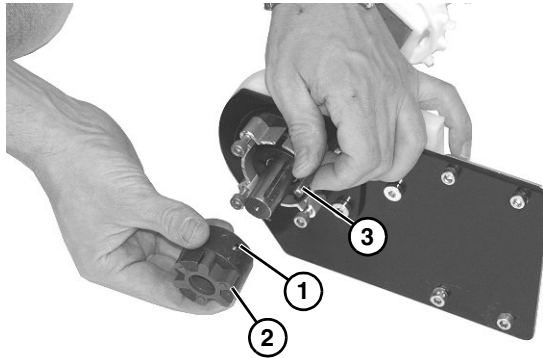

Figure 27
4. Loosen set screw (**Figure 27, item 1**) and remove coupling (**Figure 27, item 2**).
5. Remove key (**Figure 27, item 3**).